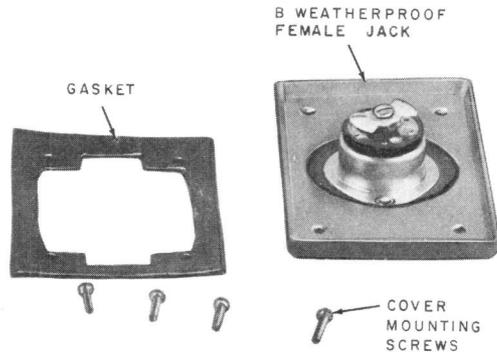

Fig. 1—B Weatherproof Female Jack
- At all other installations—use a B Outlet Box, AT-8732, and a B Weatherproof Female Jack, ♦Adapter♦ AT-8732 (Fig. 1 and 2).